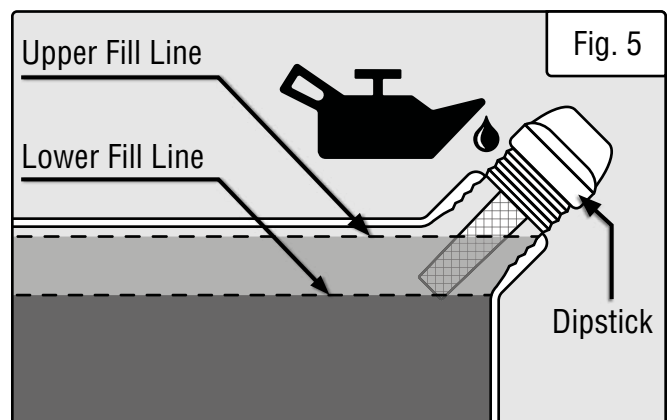

Fig. 5
3. Using an oil funnel or appropriate dispenser, slowly add oil into the oil fill, being careful not to overfill the unit. Fill the crankcase to the upper fill line so you can visually see the oil coming halfway up the oil fill threads. See Fig. 5.